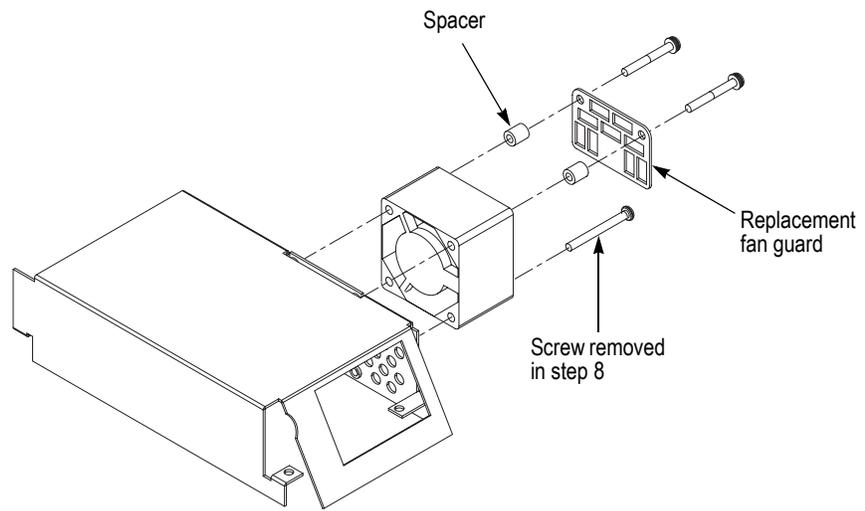

Figure 3: Installing the replacement fan guard and spacers
10. Position the replacement fan guard and two spacers provided in the kit as shown in Figure 3.
11. Secure the fan guard and spacers to the power supply shield using two screws provided in the kit. See Figure 3.
12. Secure the bottom of the fan to the power supply shield using one of the screws removed in step 8. See Figure 3.